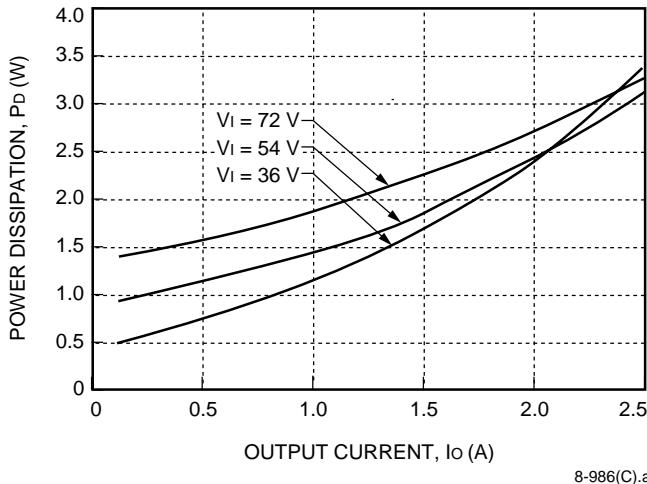
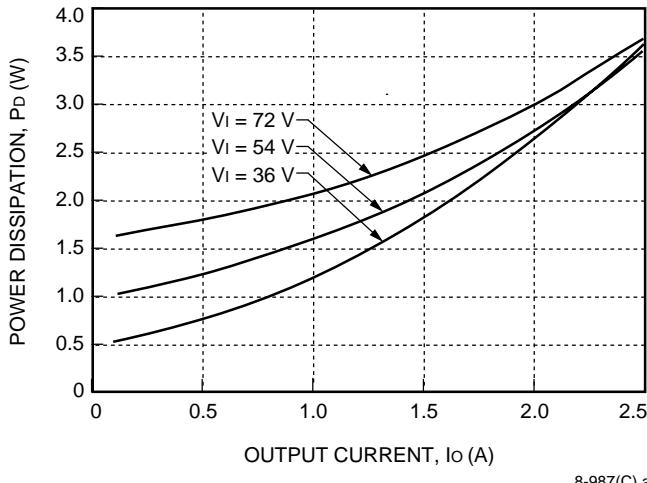
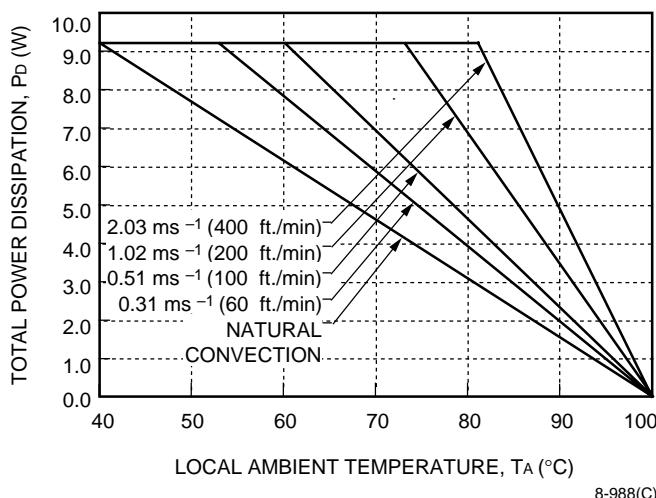

Figure 16. 3.3 V Output Power Dissipation vs.
Figure 17. 5 V Output Power Dissipation vs. Output Current
Figure 20. Total Power Dissipation vs. Local Ambient Temperature and Air Velocity
The DW025-Series Dual Output Power Modules have a separate power stage for each of the outputs. This means that the maximum operating temperature can be predicted quite closely by treating each output individually and then summing the results. Figures 16 through 21 are used to predict the safe operating condition for many different operating and environmental conditions.
1. Find the power dissipated for output 1 by using the appropriate chart (Figures 16 through 19) for a particular output condition (I_{O1}).
2. Repeat step 1 for output 2 using Figures 16 through 19.
4. Use the total power dissipated with Figure 20 to determine the maximum ambient temperature at different air velocities.
For example, the DW025AF-M power module operating at full load on both outputs with 54 V input has a power dissipation of 3.6 W (from Figure 17) plus 3.1 W (from Figure 16) for a total of 6.7 W. Using Figure 20, it can be determined that the maximum ambient temperature at natural convection that the DW025AF-M can operate at is approximately 56 °C.